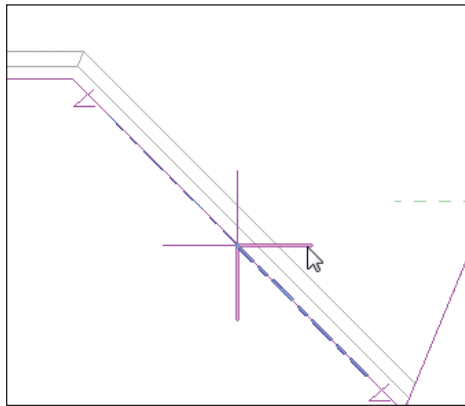

FIGURE 7.62 Adding a second slope arrow
4. Add a second slope arrow coming from the opposite side of the ridge-line, as shown in Figure 7.62.